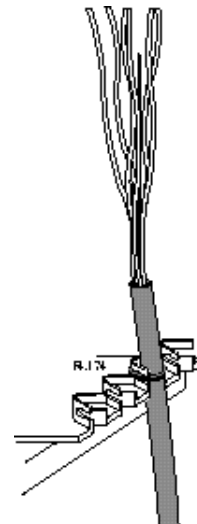

Figure 2
4. Attach the cable to the FOSC work stand with a tie wrap. (See Figure 2)